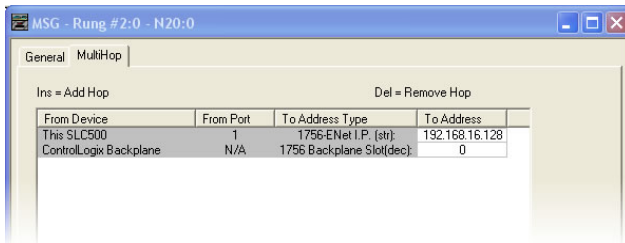

Figure 114: MSG Configuration, "MultiHop" Tab
- e) Under the “MultiHop” tab settings, set the “To Address” in the first row to the inverter’s IP address, and the “To Address” in the second row to 0. Refer to Figure 114.